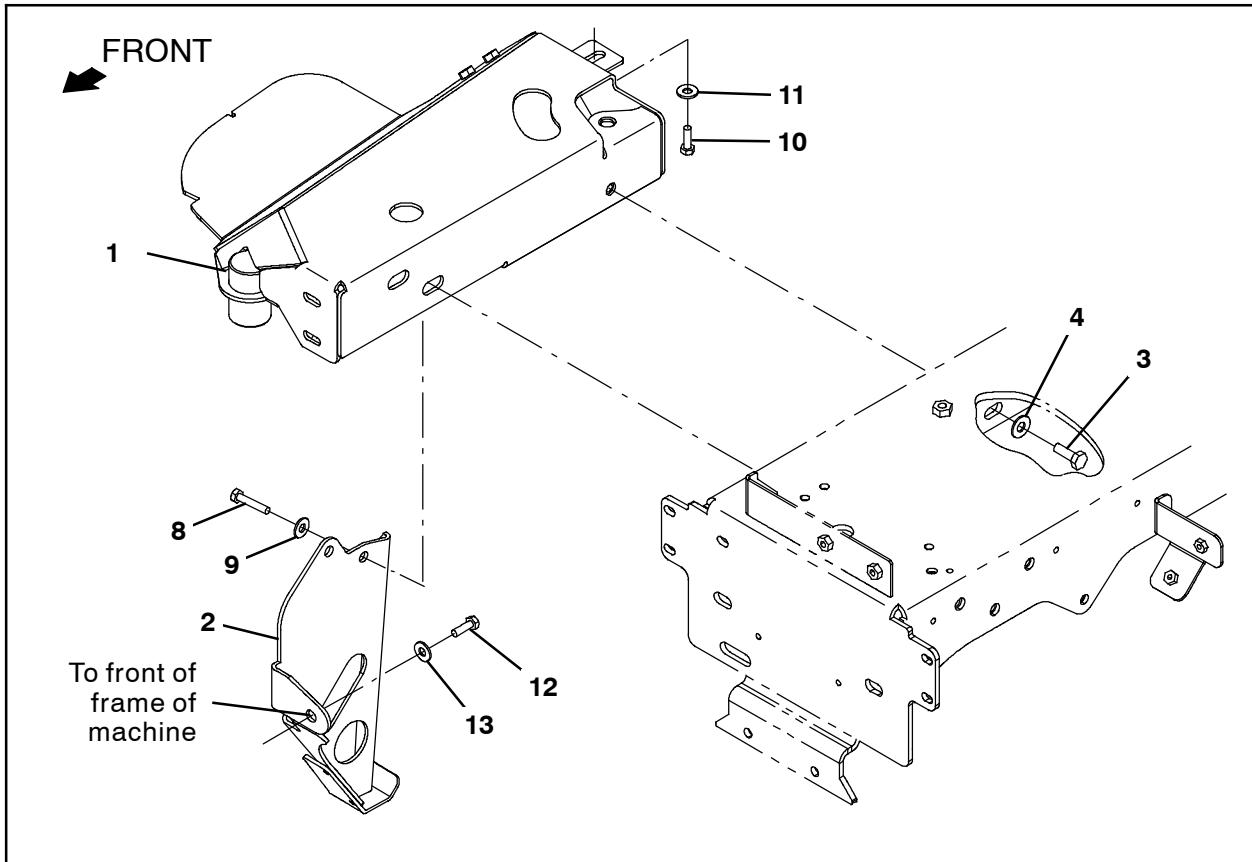

FIG. 2
2. Use one M10 hex screw (3), and one flat washer to install the side brush assembly mount bracket (1) onto the frame of the machine. (Fig. 2)
3. Use two M10 hex screws (8) and two flat washers (9) to install the anti-roll bracket (2) onto the side brush assembly mount bracket (1) and secure the side brush assembly mount bracket to the frame of the machine. (Fig. 2)
4. Use one M12 hex screw (12) and one flat washer (13) to secure the anti-roll bracket (2) to the front of the frame of the machine. (Fig. 2)